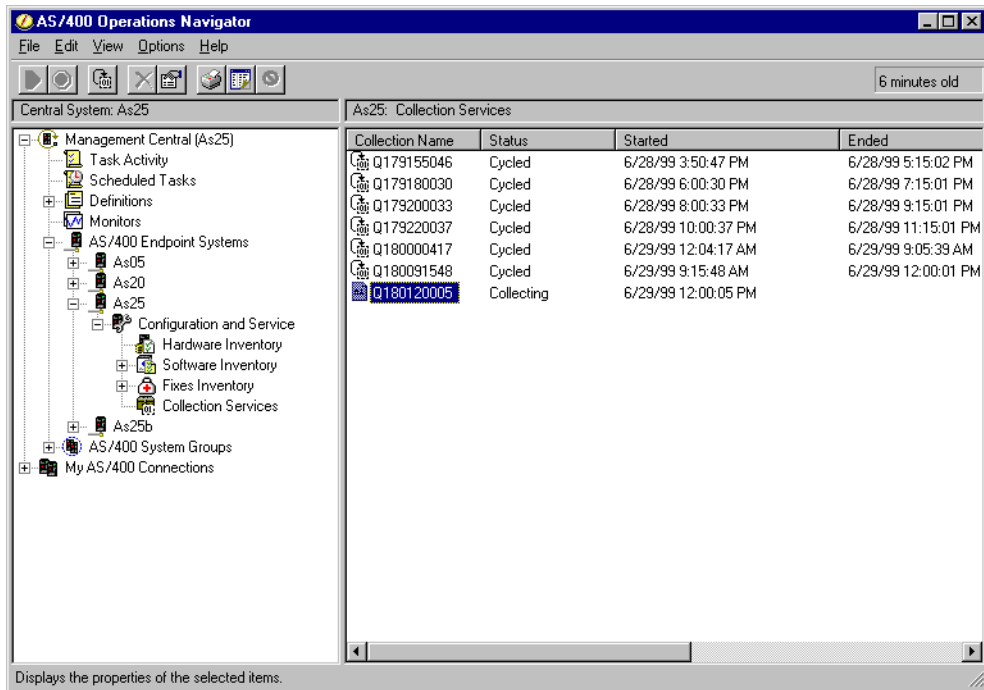
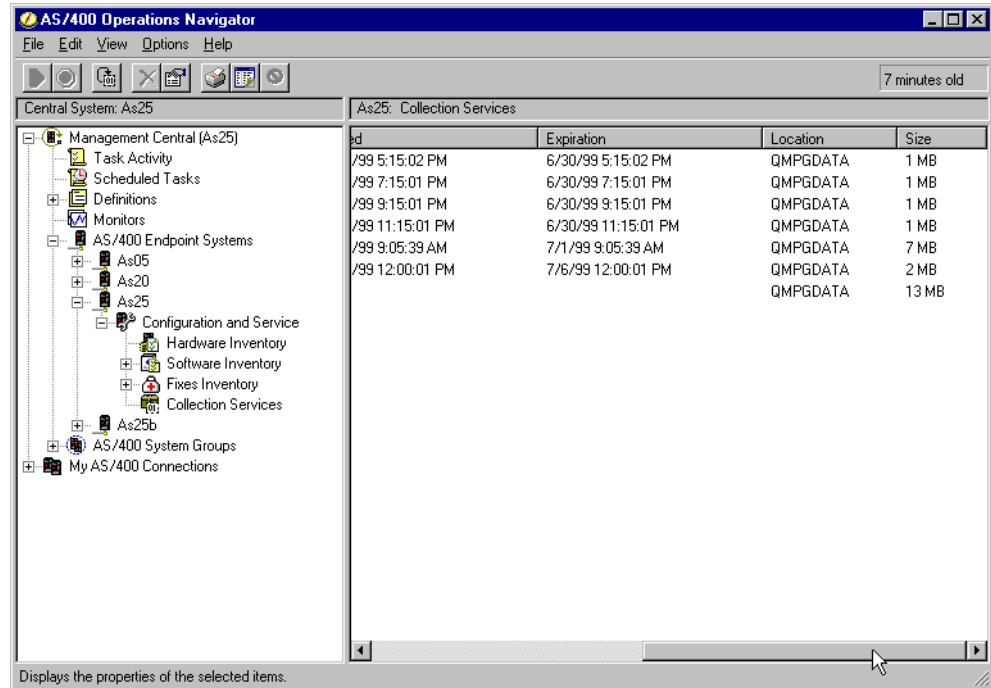

Figure 125. Collection Objects display
Figure 126. Collection Objects display: Right side
- The collection objects for each endpoint system will reflect start and end times based on the `QTIME` and `QUTCOFFSET` (Coordinated universal time offset) system values of that endpoint system. If the endpoint system is in a different time zone from your Management Central client PC and these system values are correctly set, the start and end times reported for collection objects will be the times on the client PC. See the Figure 125 on page 154 for this scenario. The times in the Started and Ended columns reflect the time on the client PC no matter what system time the AS/400 system (AS25 in this case) has.
2. Click **Collection Services** to see a display similar to the example shown in Figure 125.
3. Use the horizontal scroll bar at the bottom of the display to see the fields shown in Figure 126 on page 155.
No Ended or Expiration dates and times appear while a collection is still active, as can be seen in the last entry in Figure 125 and Figure 126.